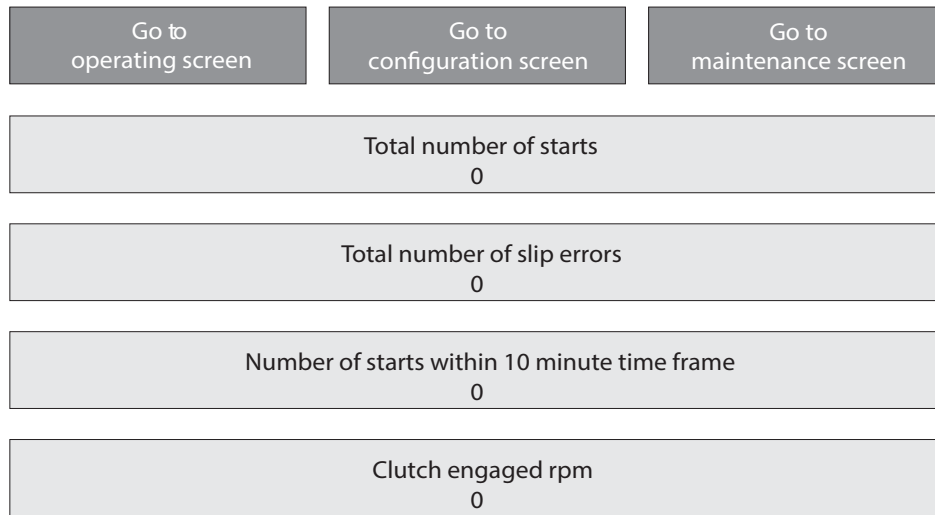

Figure 7
4.2.3 When the ENERGIZE VALVE pushbutton is pressed, the VALVE ENERGIZED indicating light will flash until the prestart delay is over. When the prestart delay is over, the clutch will start to engage and the indicating light will stay on solid. The background of the ENERGIZE VALVE pushbutton on the operating screen of the HMI will flash according to the number of starts that have been performed or attempted in a 10 minute time frame. This is to let the user know if they are about to reach the maximum allowable start limit. The number of starts that have been accumulated in the 10 minute time frame can also be seen on the history screen of the HMI. Refer to Figure 7 for the layout of the history screen of the HMI and the information available. Also refer to section 3.1.1, item (g) for additional description of the cool down timer